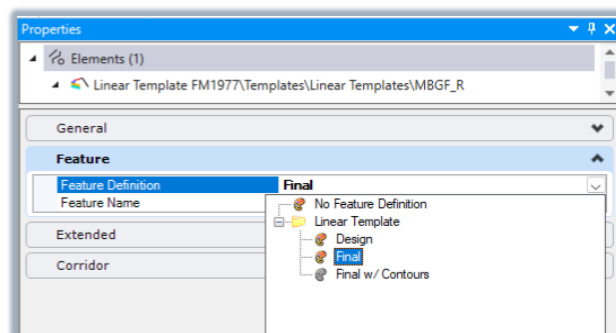

Figure 2 – Setting Linear Template Feature Definition
- b. Set linear template feature definitions to “Final” (see Figure 2)